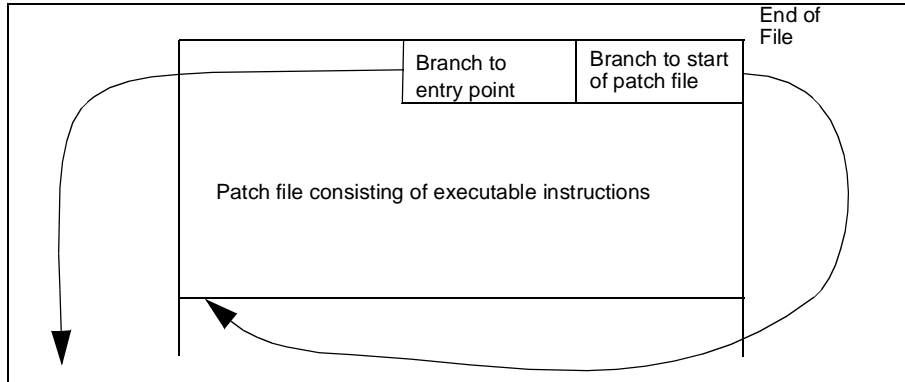

Figure 9-2. Detail of patch file placement
- p patch_file The patch file flag causes the file *patch_file* to be placed into the image just before the final branch and logically inserted into the instruction stream between the branch at the end of the file and the entry point. The patch file is inserted into the image "as is" and will usually contain the binary representation of position independent executable instructions. See Figure 9-2 for the details as to how normal **hbranch** processing is changed by a patch file.